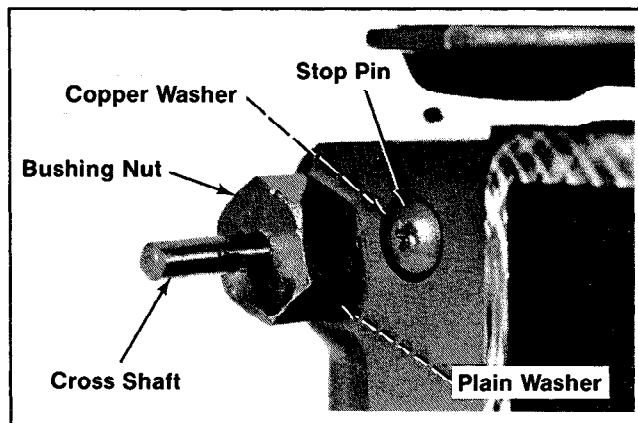

Figure 10-12. Removing Cross Shaft And Stop Pin.
1. Remove the stop pin, copper washer, governor gear, and thrust washer. Refer to Figures 10-12 and 10-13.